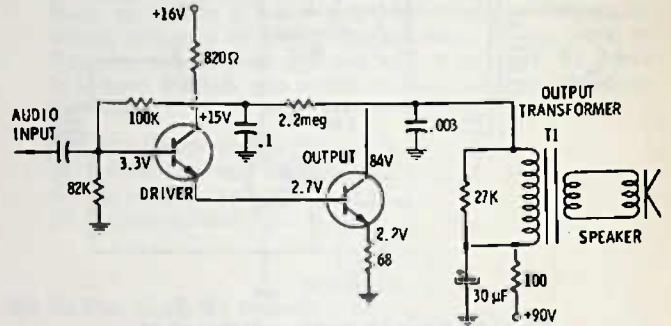

Fig. 12-22. Circuit for Questions 50 through 53.
50. In Fig. 12-22, suppose that output transformer T1 should open (the primary winding) what would happen to the current through the driver transistor?
51. Judging by the emitter-resistor voltage drop (and disregarding the slight amount of base current which is less than 2 mA) how much current is flowing in the collector circuit of the output transistor in Fig. 12-22?
52. The output stage in Fig. 12-22 is
53. If you were to increase the amount of dc bias on the driver transistor in Fig. 12-22, what would be the effect on the collector voltage of the output transistor?